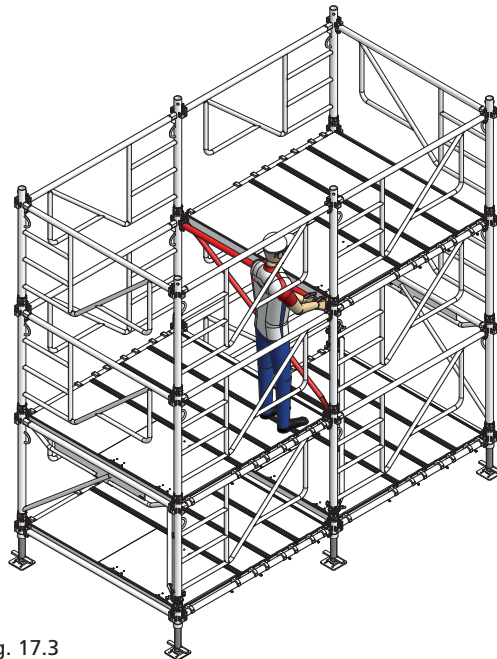

Fig. 17.3
18. Install the bracing between the two towers (Fig. 17.3).